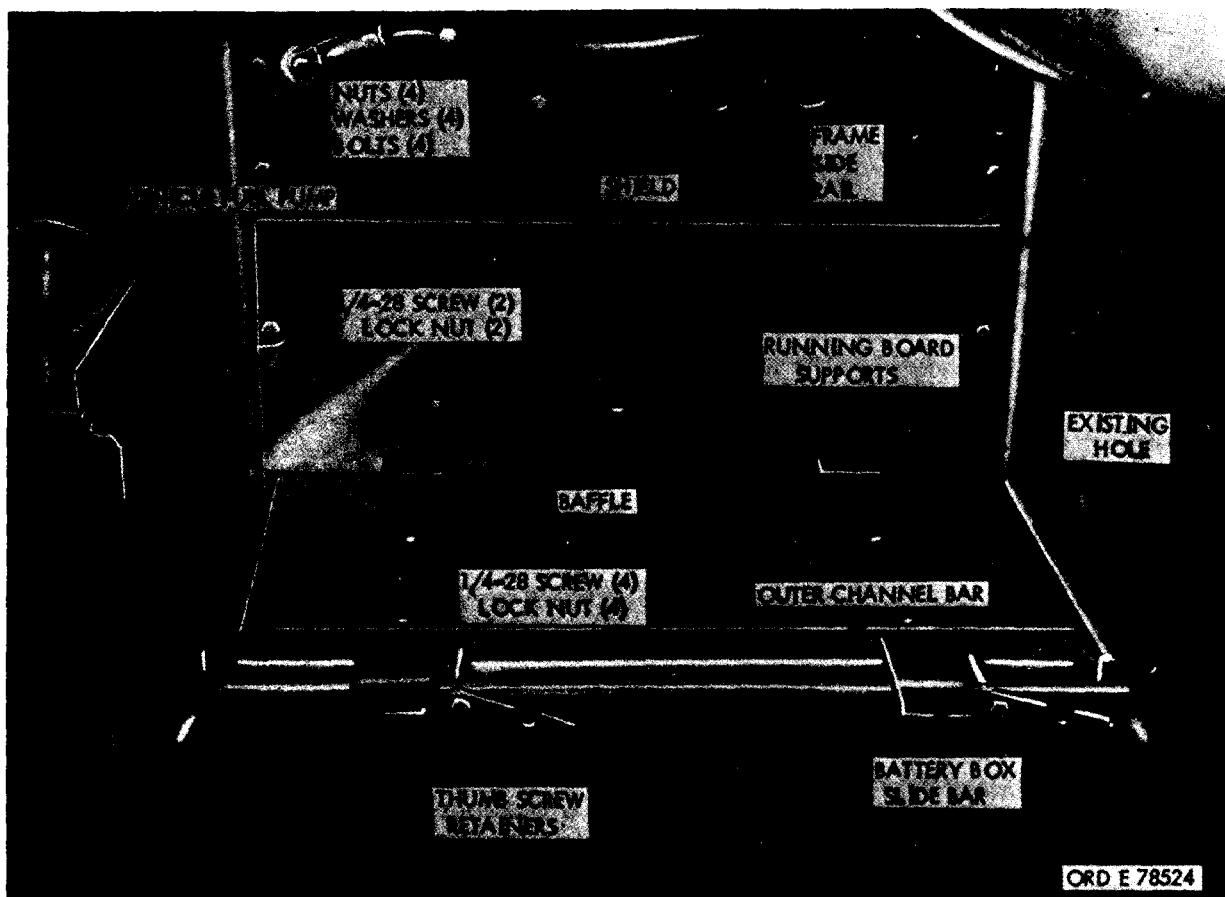
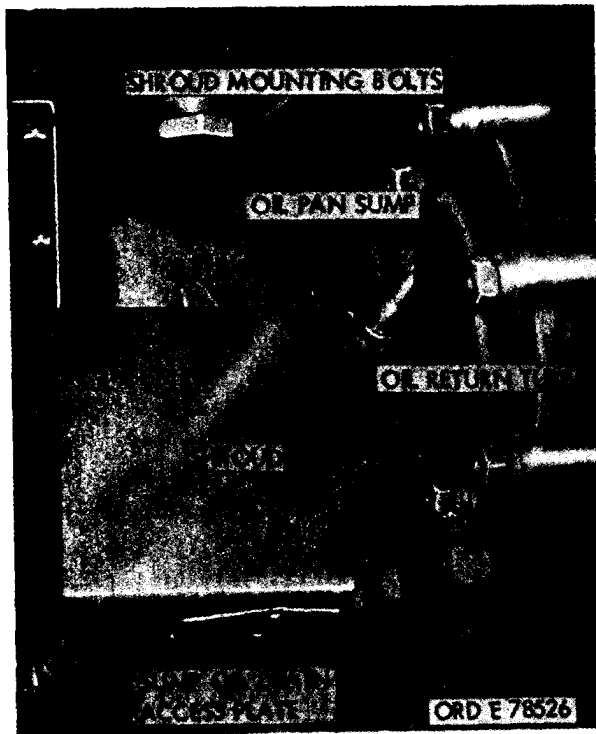
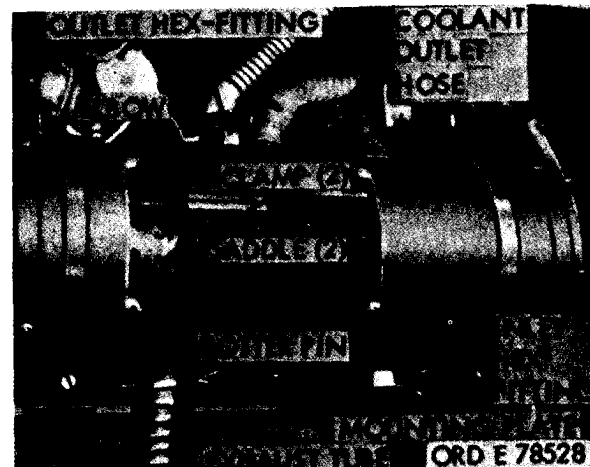

Figure 697. Installation of baffle and shield.
Figure 699. Shroud showing cut-out around oil return tube.
Figure 701. Mounting power plant heater.
- (1) Place baffle 7700424 on battery box support as indicated in figure 697.
- (2) Using baffle as a template, locate four baffle mounting holes.
- (5) Place shield 10931883 against and between the running board supports as indicated in figure 697.
Note. Semi-circular cut-out is positioned around existing bolt and nut which secures vehicle exhaust pipe bracket (fig. 697).
- (10) Remove the four nuts, washers and bolts from the top inner sides of running board hangers (fig. 697).
- (11) Secure heater mounting plate 10896366 to running board supports using nuts, washers, and bolts removed in (10) above.
c. Install Oil Pan Shroud (Figure 699).
- (1) Temporarily place shroud against oil pan well to determine which oil pan bolts need removal.
- (1) Before attaching heater to mounting plate, slide one end of (56 in. long) heater-to-shroud exhaust tube (7986268) onto exhaust pipe of heater. Drill a 5/32 dia. hole, 3/8 in. from end, through tube and heater pipe (fig. 701) and insert cotter pin MS 96906-24665-363.
- (2) Run exhaust tube through hole in curved shield until heater abuts on plate. Attach heater to plate with round clamps through saddles (fig. 701).
- (3) Attach exhaust tube 7986268 to shroud tube attachment and drill through tube and shroud tube with 5/32 dia. drill, 3/8 in. from end. Fasten with cotter pin, MS 96906-24665-363.
- (4) Fasten bracket 10931985 to existing forward bottom screw hole in forward right running board support (fig. 697), using screw MS 96906-35291-60 and nut MS 96906-51922-17 (figs. 699 and 700). Secure tubing to bracket with clamp 8707524 1/4-28x7/8, screw MS 96906-35292-8, nut MS 96906-51922-5 and washer MS 96906-27183-10.
- (4) Screw 45 degree elbow MS 96906-24518-7 into outlet hex-fitting on top of heater (fig. 701).